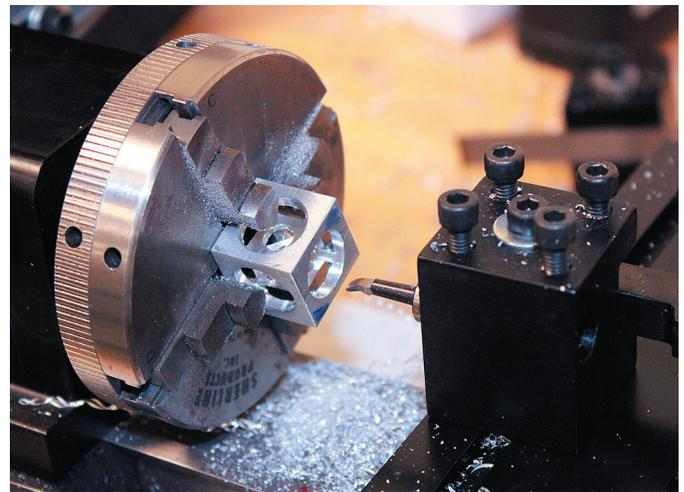

Figure 6—The special undercut boring tool P/N T3061 is used to release the inside cubes.
4. Finish face and undercut five of the six sides of the .209" cube. For this operation you will be using the hand ground "undercut tool" that was made from the second 3061 Boring Tool (See Fig. 7.) Undercut to .335" diameter at .270" deep. At the .270" depth, you will be taking a .003" finish pass on the face of each side of the cube. **IMPORTANT! Do not undercut all six sides!** I suggest marking one side with a magic marker so you will know which one to leave for last. (See Figure 6.)